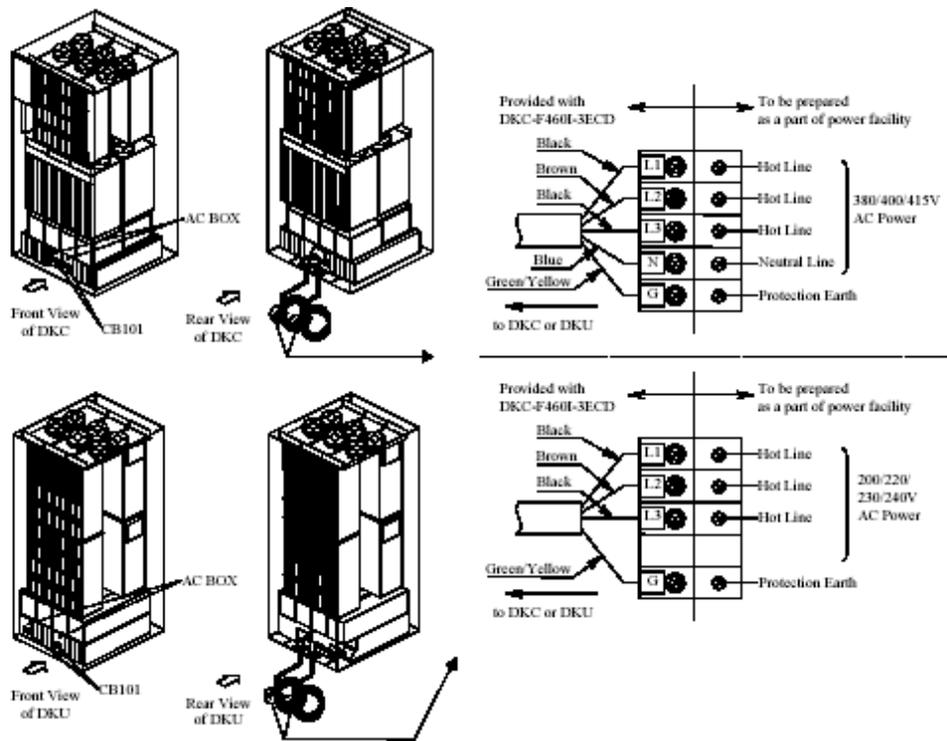

Figure 4.7 Three-Phase 30-Amp Model for Europe
Figure 4.7 illustrates the power plugs for a three-phase ST9990V (Europe). The DKC has two (2) main disconnect devices (two main breaker CB101s for dual power lines), so that AC power of the unit can be supplied from the separate power distribution board with two (2) power supply cords. Similarly, each of the DKU-R1, DKU-R2, DKU-L1, and DKUL2 also has two (2) main disconnect devices.
**Connection of Power Supply Cord.** The unit has two (2) power supply cords. Make sure to prepare the following socket receptacles and power cords between the power distribution board of the building and the power cords for the unit:
Make sure to connect a power cord to the distribution box as illustrated in Figure 4.7. The wrong connection of neutral line may cause fire or damage to the equipment. To reduce the risk of wrong connection, use the approved type attachment plug and socket for power cord connection.